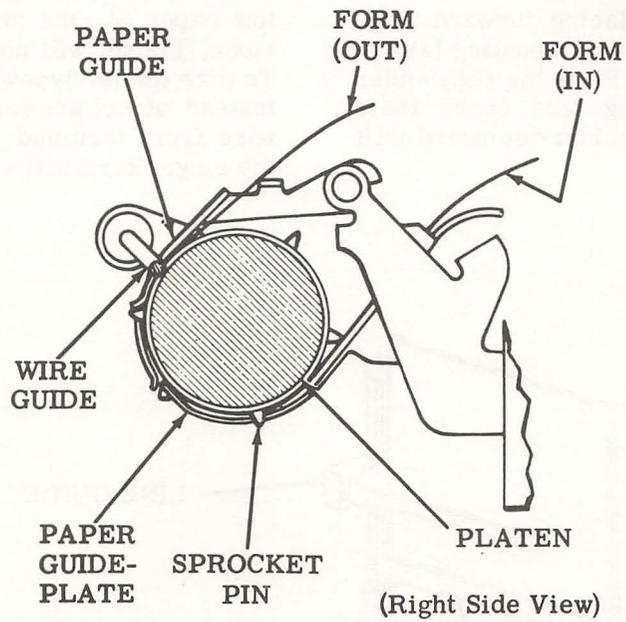

Figure 8 - Form Threading — Sprocket Feed
3.16 Figure 8 illustrates form threading for a sprocket feed typing unit.